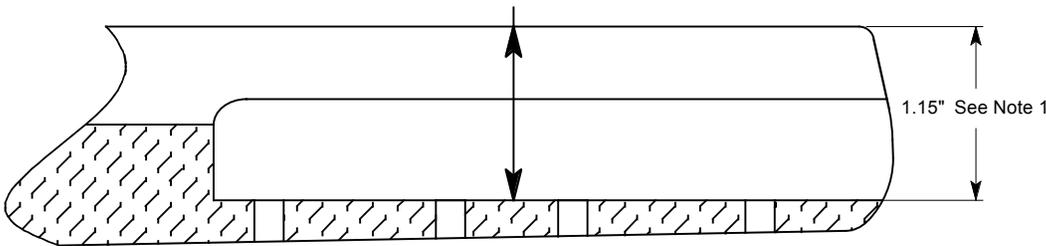

fig.1
1. Using a 1/2" dia. End mill, Mill a rectangular channel in the forearm of the stock that corresponds with the dimensions in Figures 1&2.